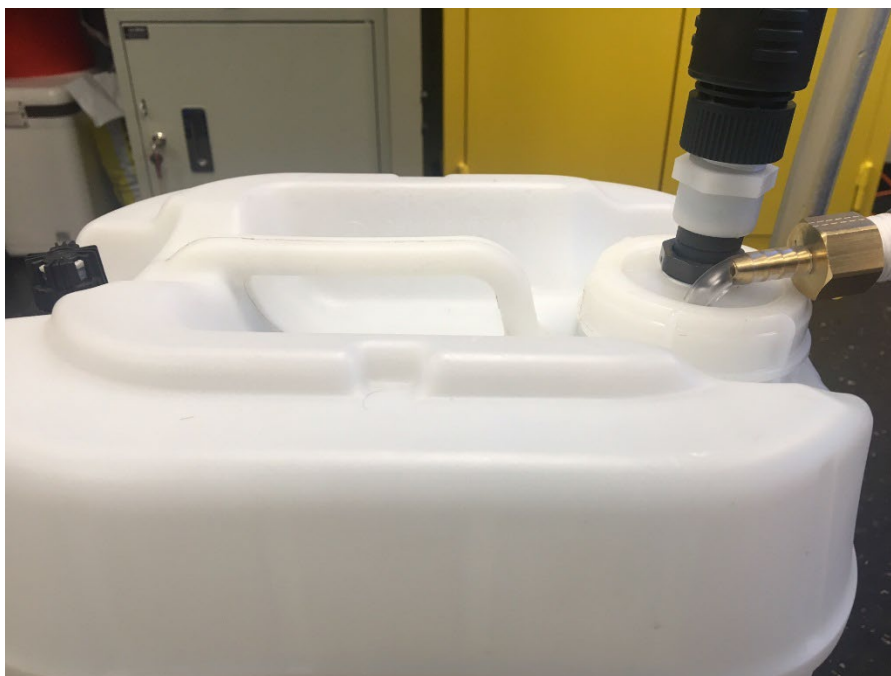

Figure 9: Adapter cap with pick up tube and tank return hose attached.
- 10) Insert tank return hose through small diameter hole on adapter cap, as shown in Figure 9.